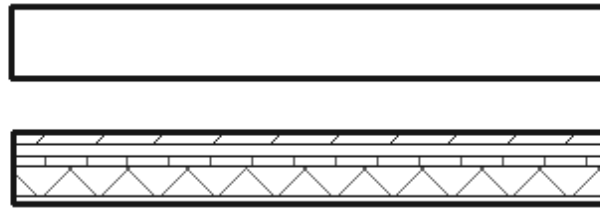

Figure 7–61
4. Some walls are made from multiple layers of materials, such as brick, block, and drywall, as shown on the bottom in Figure 7–61. If the hatching for these materials is not displayed (as shown at the top in Figure 7–61), how do you change this?